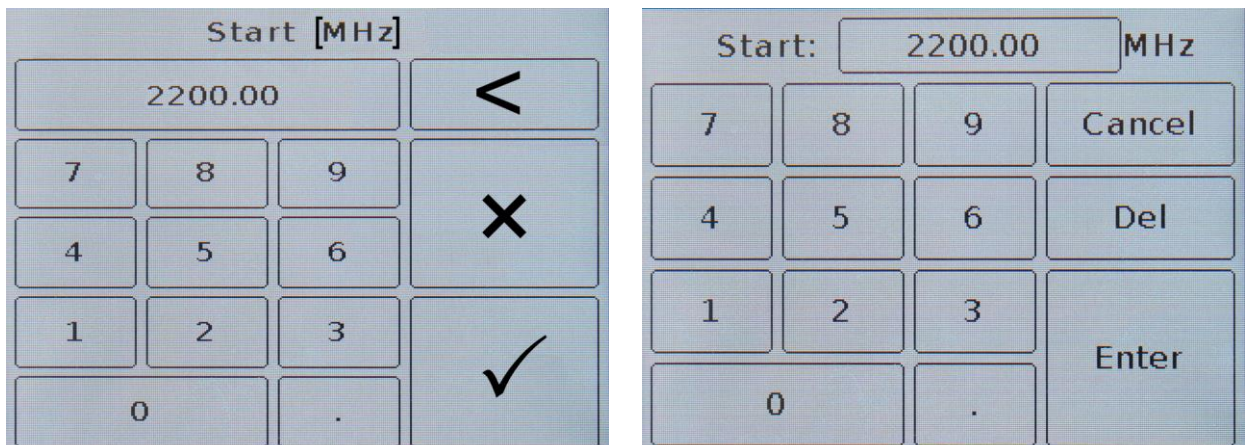

Figure 9.3 – Entering numerical values of frequency parameters of ARINST VR 1-6200 and ARINST VR 23-6200
**BW** – choice of bandwidth of the digital filter of the intermediate frequency (IF).
9.2.3. Setting the frequency parameters (**Center**, **Span**, **Start** and **Stop**) is done by entering a numerical value in the opened submenu, as in Figure 9.3. Enter the numerical value of the frequencies and press **✓** or **Enter**. To delete erroneous or previously entered values, press **×** or **Del**. To refuse to enter a value, click **<** or **Cancel**. *In our example, in figure 9.3, the initial frequency of 2200 MHz of the scanned frequency range is set.*